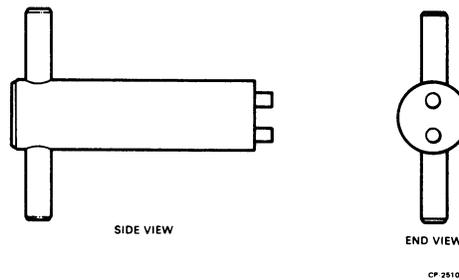
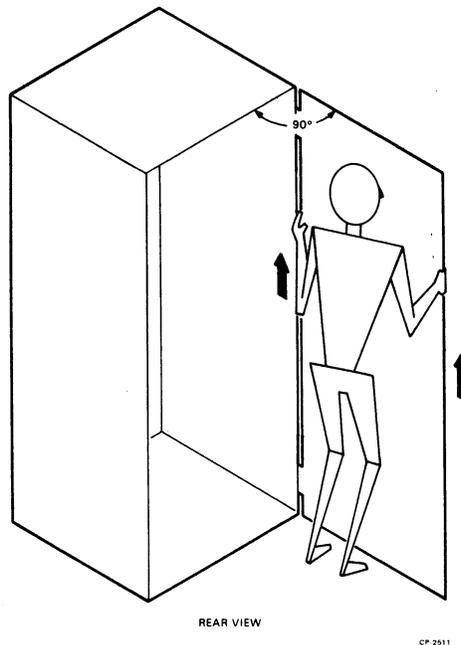

Figure 2-1 Rear Door Opening Tool
Figure 2-4 Removing Back Door
5. Spanner wrench, i.e., rear door opening tool supplied with CPU cabinet (Figure 2-1) (DEC 12-13091)
Unlock the rear door by inserting the door opening tool (Figure 2-1) and turning it 1/4 turn in a counterclockwise direction (tool is a loose piece shipped with the cabinet). Remove the door by swinging it open 90 degrees and lifting it off at the hinges (Figure 2-4).